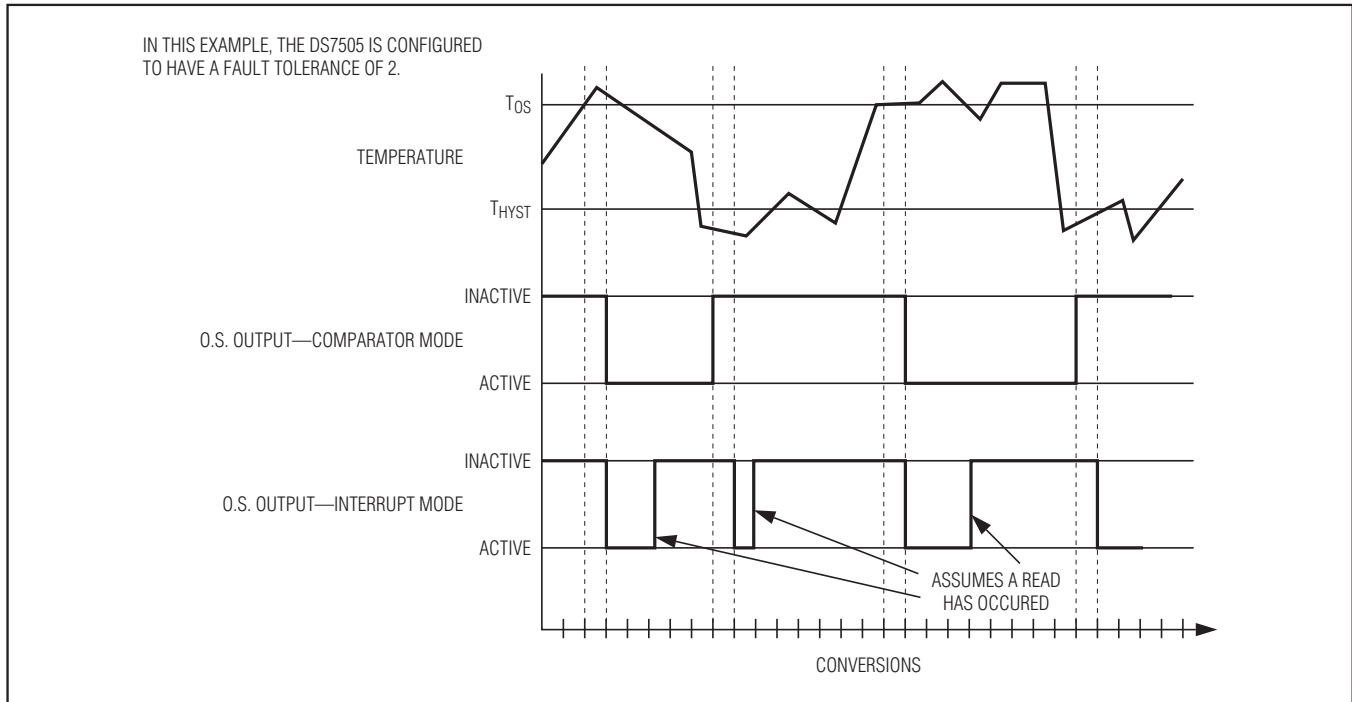

Figure 4. O.S. Output Operation Example
When the thermostat is in comparator mode, O.S. can be programmed to operate with any amount of hysteresis. The O.S. output becomes active when the measured temperature exceeds the T_{OS} value a consecutive number of times as defined by the F1 and F0 fault tolerance (FT) bits in the configuration register. O.S. then stays active until the first time the temperature falls below the value stored in T_{HYST} . Putting the device into shutdown mode does not clear O.S. in comparator mode. Thermostat comparator mode operation with $FT = 2$ is illustrated in Figure 4.
when the measured temperature falls below the T_{HYST} value a consecutive number of times equal to the FT value. Again, O.S. can only be cleared by putting the device into shutdown mode or reading any register. Thus, this interrupt/clear process is cyclical between T_{OS} and T_{HYST} events (i.e., T_{OS} , clear, T_{HYST} , clear, T_{OS} , clear, T_{HYST} , clear, etc.). Thermostat interrupt mode operation with $FT = 2$ is illustrated in Figure 4.